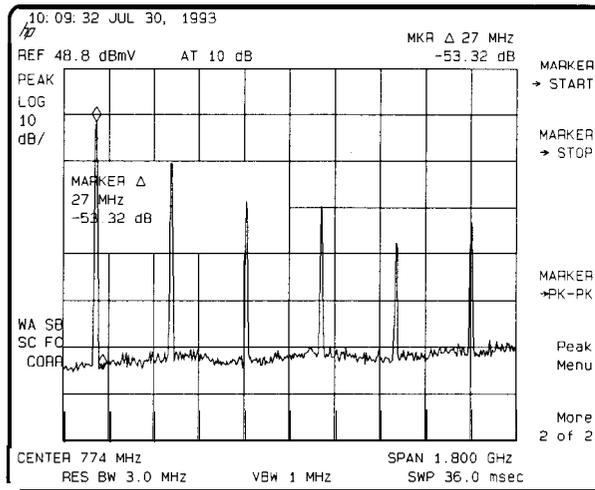

Figure 4-13. Using the Marker to Peak/Peak Function
5. The **MARKER →PK-PK** softkey can be used to find and display the frequency and amplitude difference between the highest- and lowest-amplitude signals. To use this automatic function, press **(MKR→)**, More **1 of 2**, **MARKER →PK-PK**. See Figure 4-13.